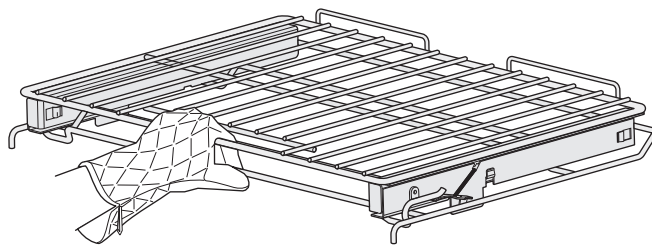

Figure 19: Luxury-Glide™ extendable oven rack
1. Using one hand, reach through handle opening and grasp both the upper and lower portions of the glide rack as shown in Figure 19.